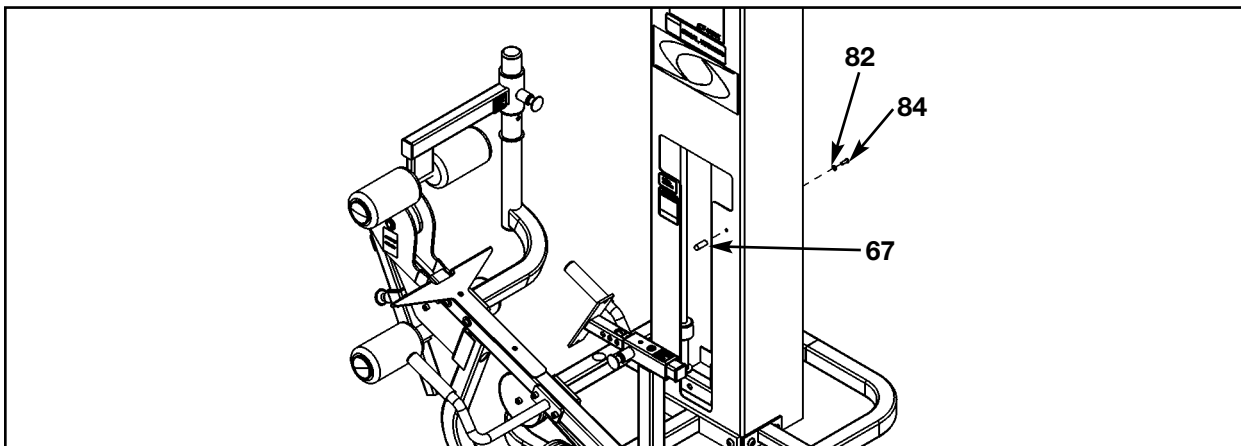

Figure 13
6. Install weight stack (see steps 6A - 6O, Figures 13 - 15).
B. Install the half weight peg (#67) as shown in Figure 13.